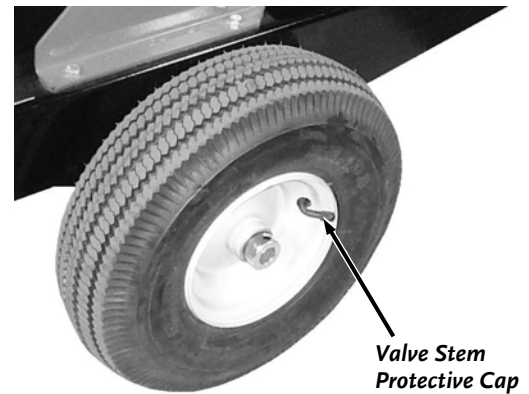

Figure 13
1. Remove the Valve Stem Protective Cap (**Figure 13**) and check the tire pressure with a tire pressure gauge.